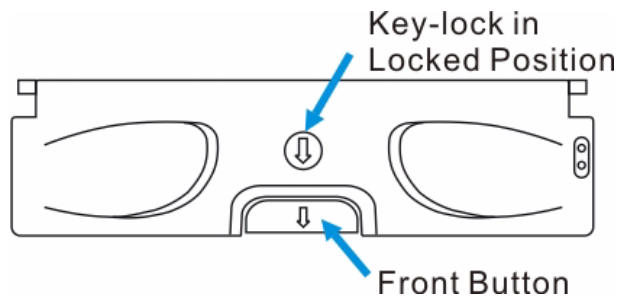

Fig. 3.1 Front View of an Individual Drive Tray
1. Make sure the key-lock is in the unlocked position, i.e., the groove on its face is in a horizontal orientation. If the groove is in a vertical position, as shown in *Figure 3.1*, then the key-lock is locked and the front flap on the drive tray cannot be opened.